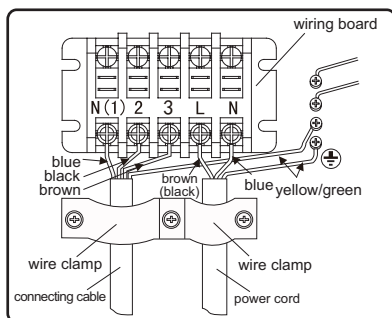

Fig.20
4. Well connect the wire according to wiring diagram.(As show in Fig.20)